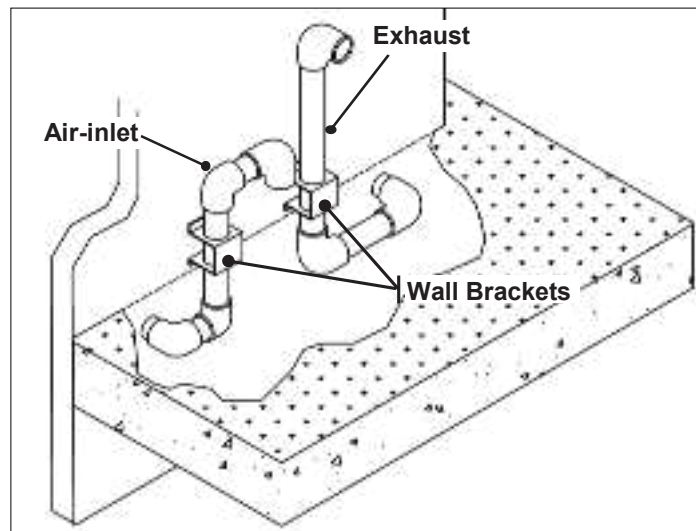

Figure 16 - Venting Below Grade
- Excavate the site to a point where the pipes are to exit as shown in Figure 16.